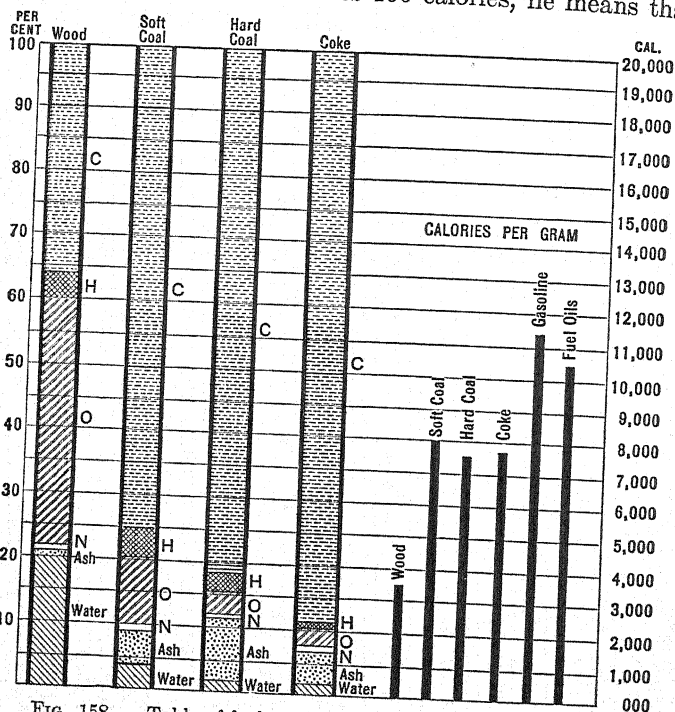

FIG. 158. — Table of fuel composition. Relative heat content of fuels.
**245. Of What Are Fuels Composed?** A glance at the accompanying table, Fig. 158, shows that nearly all fuels con-